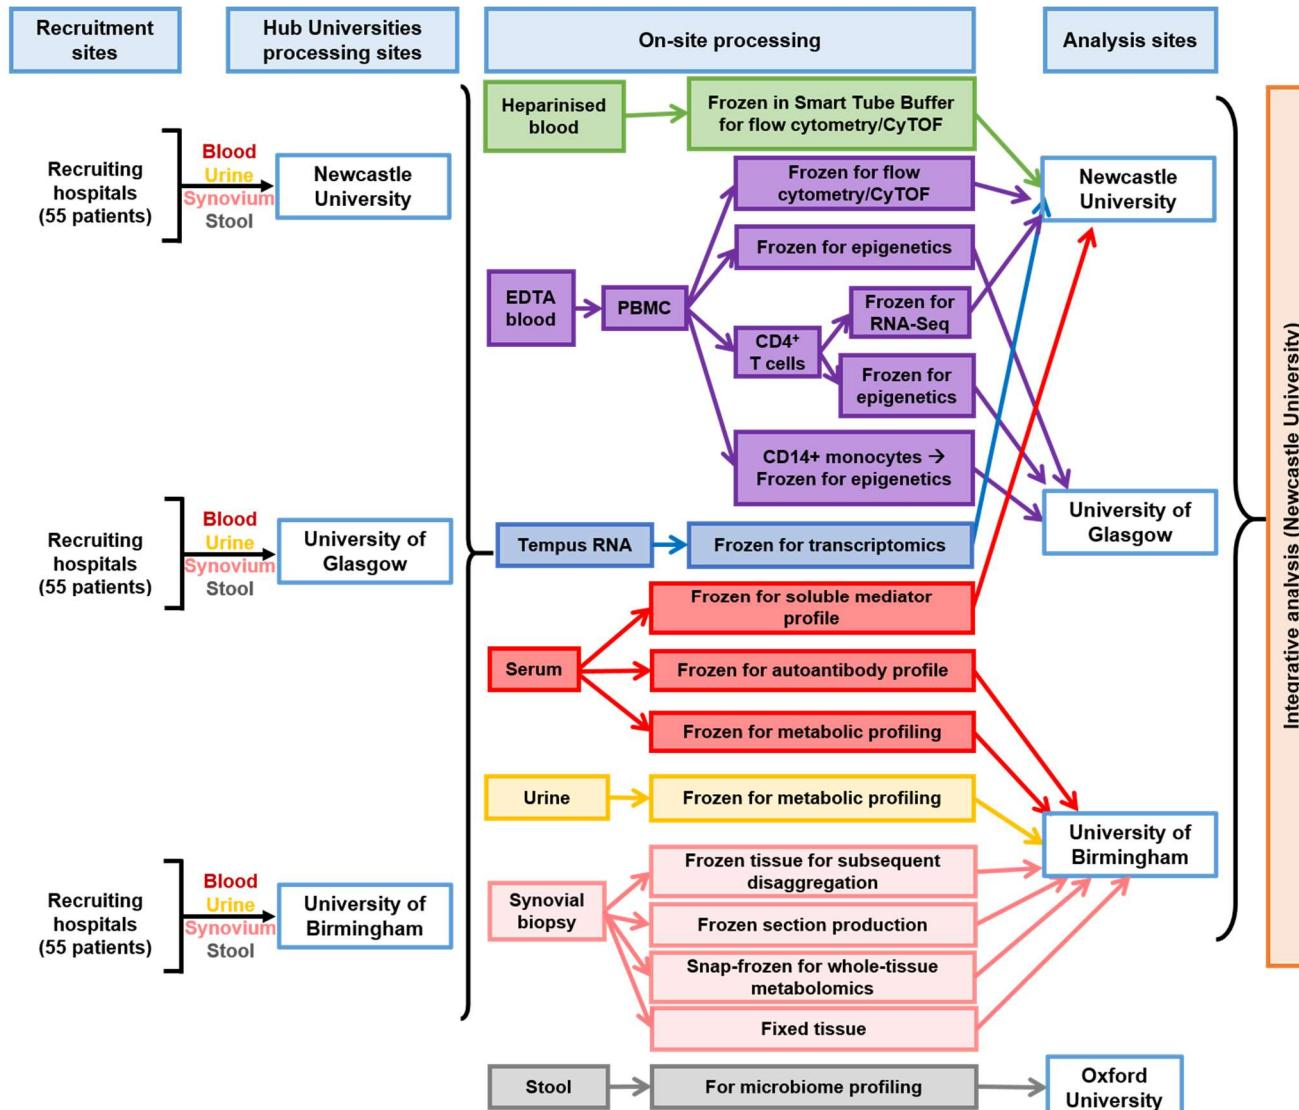

Figure 3.2. Overview of sample collection and processing.
- The biological samples, along with the **Blood and Urine Sample Record Log sheet**, will be transported to the local hub University processing sites (see *Figure 3.2*). A **Quality Control Worksheet** will be completed when processing the samples. Any deviations to the SOPs in this manual should be noted on this sheet under the ‘Notes’ section.
- After processing, samples will be stored at each processing site until transportation to the analysis sites (see *Figure 3.2*)